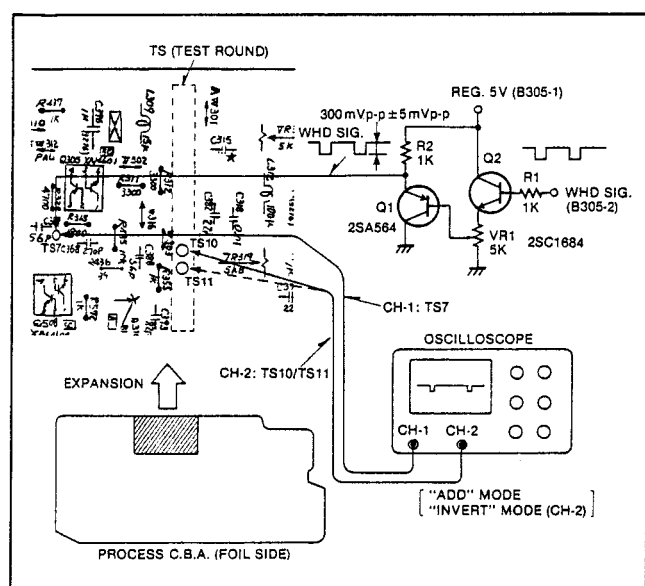

Fig. C13
- (1) Cover the camera lens with lens cap.
- (2) Supply the "WHD" signal from Pin2 of B305 to TS7 through the buffer circuit and adjust VR1 on the buffer circuit so that the level of TS7 becomes $300 \text{ mV} \pm 5 \text{ mVp-p}$ as shown in Fig. C13.